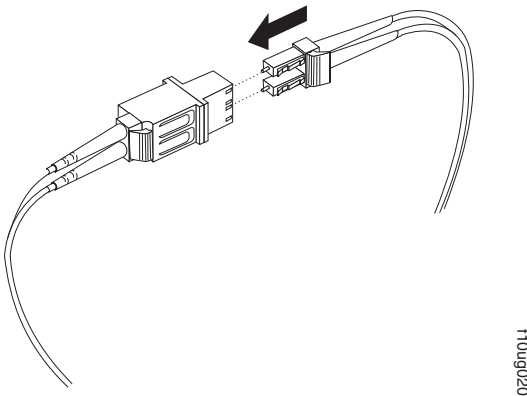

Figure 39. Connecting an LC-LC cable into the LC-SC cable adapter
4. Carefully insert the other end of the LC-LC cable into the LC connector end of the LC-SC cable adapter as shown in Figure 39. Push in the connector until it clicks into place.